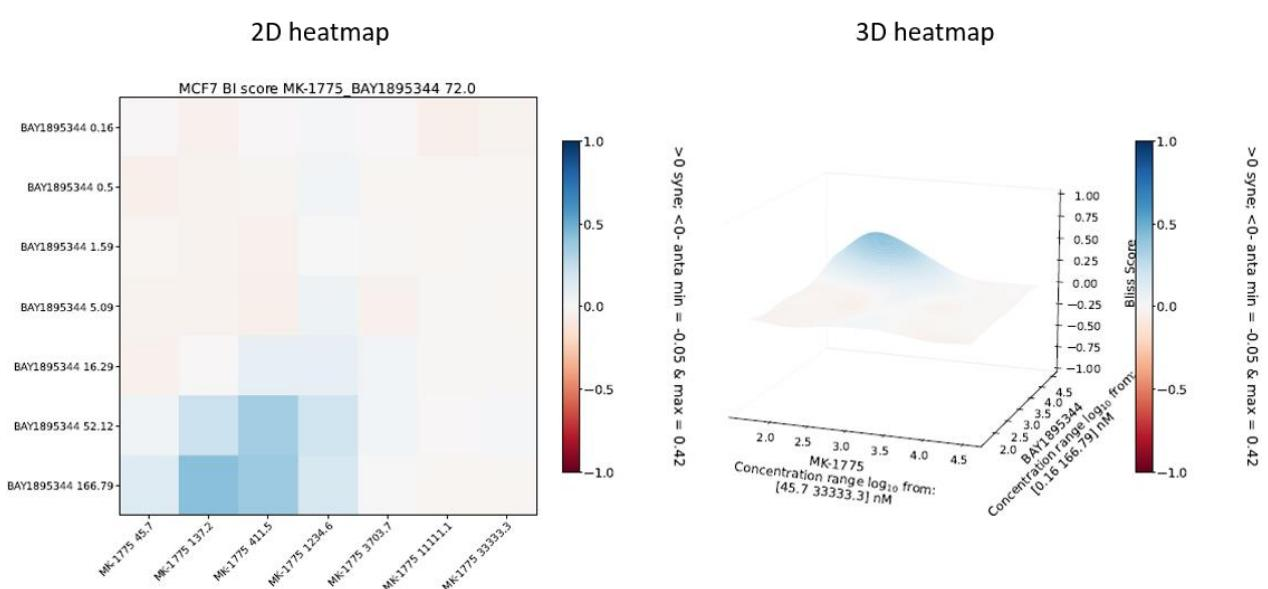
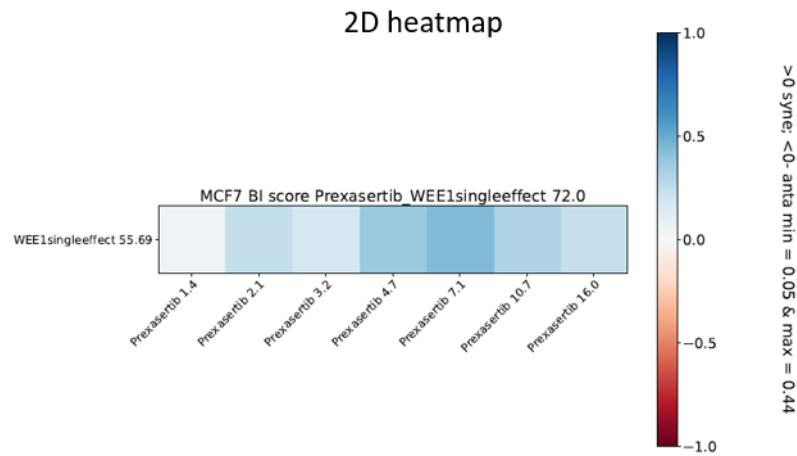

Figure 26: A 2D and 3D heatmap shown for the time point 72h, in cases of a ( $n \times n$ ) or ( $m \times n$ ) matrices combinations, with  $m > 1$ .
Figure 27: A 2D heatmap shown for the time point 72h, in case of a ( $m \times n$ ) matrix combination, with  $m = 1$ .
- 2D and 3D heatmap for the main time points, in cases of (n x n) and (m x n) matrices combinations, with m > 1, see Figure 26, for m = 1, see Figure 27.
- 2D and 3D heatmap for the main time points, in cases of ( $n \times n$ ) and ( $m \times n$ ) matrices combinations, with  $m > 1$ , see Figure 26, for  $m = 1$ , see Figure 27.